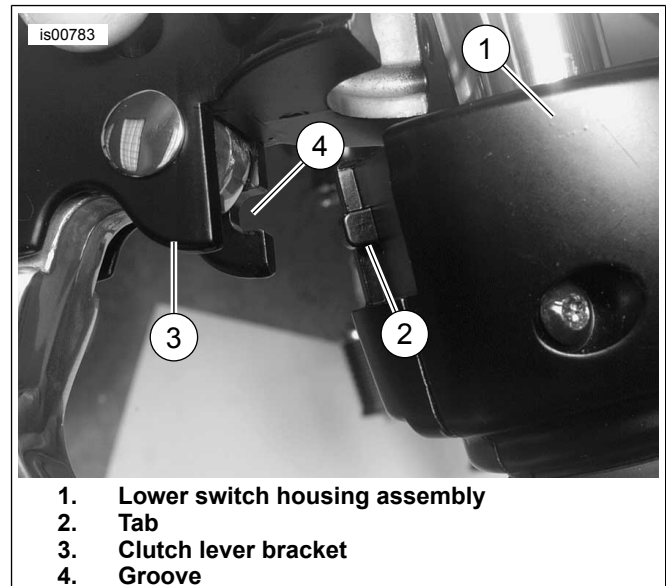

Figure 15. Clutch Lever Bracket Fit to Left Handlebar Switch Housing
6. Position clutch hand lever assembly inboard of switch housing assembly. See Figure 15. Engage tab (2) on lower switch housing (1) with groove (4) at bottom of clutch lever bracket (3).